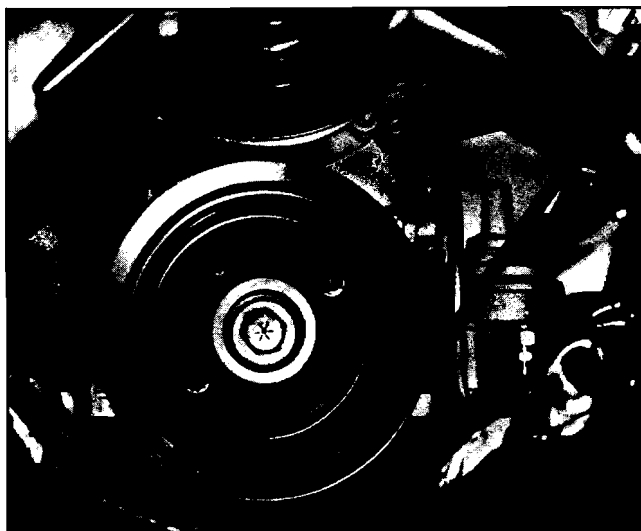

Fig. 6-94 Harmonic Balancer
2. Position fan so wide angles will be at top and bottom allowing access to balancer (Fig. 6-94).